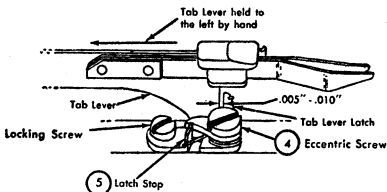

Figure 24. Tab Latch Stop Adjustment
4. TAB LATCH. Adjust by first loosening the lock nut under the rear rail on the tab latch eccentric screw. Latch out the tab lever and rotate the eccentric screw until the engaging tip covers a set tab stop by $\frac{1}{2}$ to $\frac{2}{3}$ of the exposed surface of the stop. Tighten the lock nut (Figure 24).
5. TAB LATCH STOP. Position the tab latch stop so that, with the tab lever held toward the extreme left, there will be a clearance of .005" to .010" between the left-hand edge of the latch and right-hand edge of the tab lever where the tab lever, at rest, meets the latch (Figure 24).